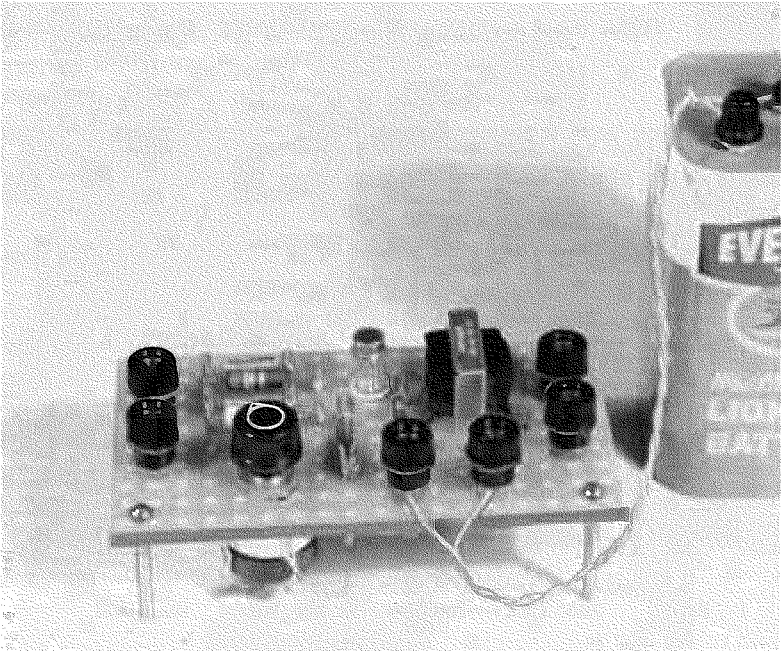
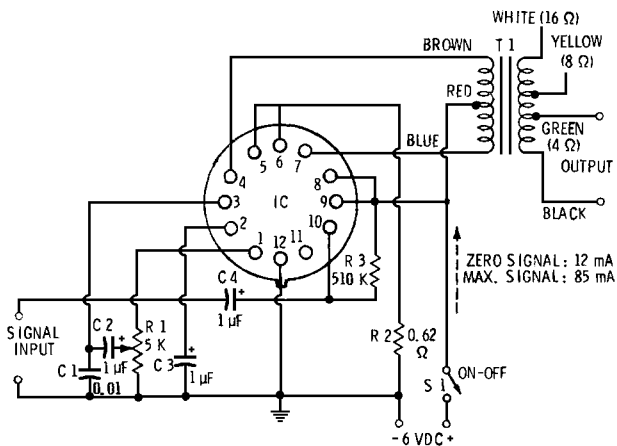

Fig. 5-1. Overall view of the quarter-watt audio amplifier.
Fig. 5-3. Circuit of the quarter-watt audio amplifier.
Fig. 5-1 is an overall view of the completed amplifier with IC plugged-in and battery connected. Figs. 5-2A and B show layout of the components, and Fig. 5-3 is the circuit diagram.
DC supply, the current drain is 12 mA at zero signal input, and 85 mA at maximum signal input. Because of the high maximum-signal drain, use of a small transistor-type battery, except for very intermittent service, is not feasible. The 2 $\frac{5}{8}$ -inch x 2 $\frac{5}{8}$ -inch x 4-inch lantern-type battery (Burgess F4BP, Allied No. 23 B 066) will supply the current at 6 volts, however, and is shown with the amplifier in Fig. 5-1.
In the $\frac{1}{4}$ -watt amplifier (compare Figs. 5-3 and 5-4), the input signal is applied to terminal 10 (base of transistor Q1), and the gain-control potentiometer (R1) is connected between terminal 1 (emitter of Q1) and ground. This makes an emitter follower out of Q1. Output from the potentiometer is applied to terminal 3 (base of Q2), which is one side of the phase inverter. The power output stage is connected push-pull: The emitters of Q6 and Q7 (terminals 5 and 6) are connected together and to 0.62-ohm emitter resistor R2, and the collectors (terminals 4 and 7) are connected to the outside
The amplifier is built on a $2\frac{3}{4}$ -inch x $4\frac{3}{4}$ -inch piece of prepunched, perforated phenolic board (Allied No. 977-1206), but it can be built much smaller, if desired. Figs. 5-1, 5-2A, and 5-2B show layout of components on this board. All resistors and capacitors are soldered above the board to Vector T9.4 push-in terminals (Allied No. 977-0923) which are simply pressed into the holes of the board. Output transformer T1 is mounted above the board (no special holes need be drilled, since the mounting holes in the transformer frame line up with holes in the board). The ON-OFF switch (S1) is a part of gain-control potentiometer R1. This potentiometer and the IC socket (Augat 8058 12-contact, Allied No. 718-0285) are mounted in $\frac{3}{8}$ -inch diameter holes drilled in the board.
10. Wire the underside of the board (follow the wiring diagram in Fig. 5-3 and the pictorial diagram in Fig. 5-2B). Note that the bottom view of the IC Socket is given in the drawings and that terminal 12 is marked with a dot on the Augat socket. For wiring, use a thin, insulated, stranded hookup wire; thicker wire is too large for the closely spaced socket terminals. For portions of the wiring that require no insulation (such as jumpers between socket terminals, or the common bus), use solid, tinned, No. 22 wire. In wiring the transformer, follow the color coding of leads indicated in Fig. 5-3. This transformer has 4-, 8-, and 16-ohm outputs. The black and green secondary leads, shown in Fig. 5-3, provide 4-ohm output; for 8 ohms use black and yellow, and for 16 ohms use black and white. The unused leads should either be clipped off or rolled up and tucked to one side below the board.